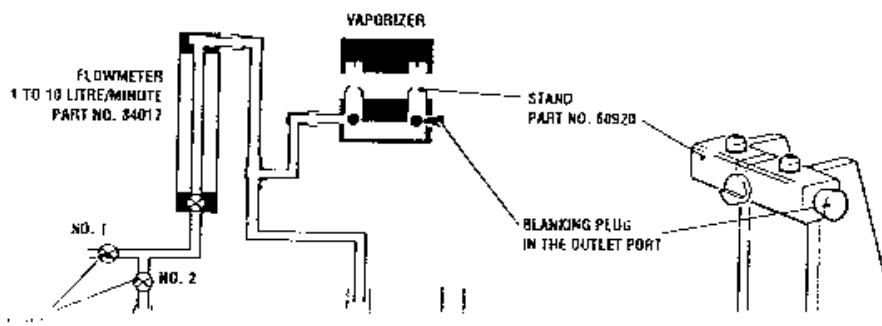

Fig. 3.25 Leak Test At ON
3.11.1 Leak Test At ON (Fig. 3.25)